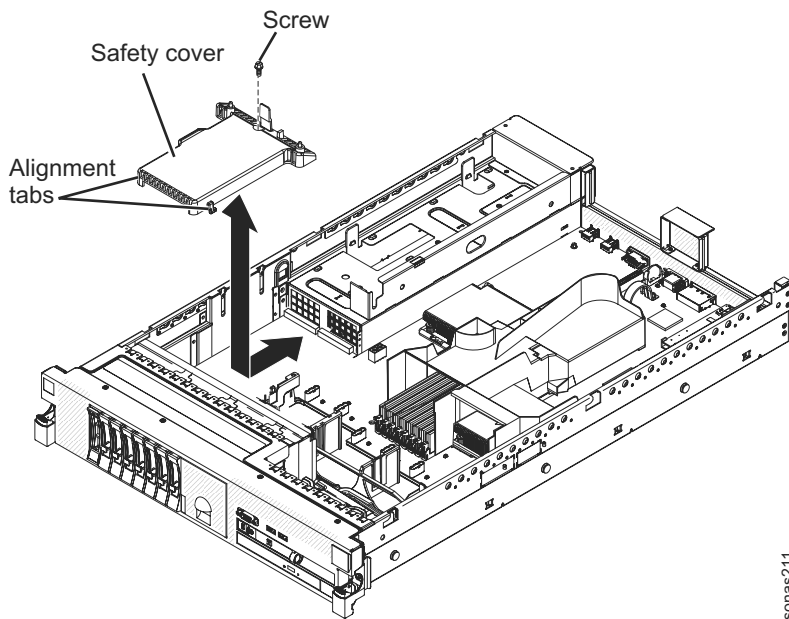

Figure 44. 240 VA safety cover
6. Remove the screw from the safety cover. See Figure 44.